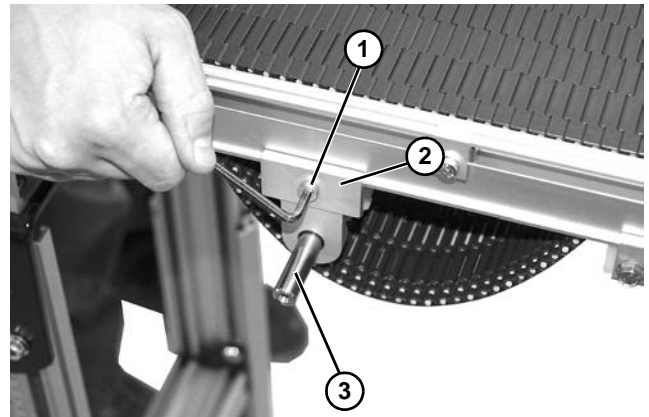

Figure 39
2. Loosen and remove screw (Figure 39, item 1) and bearing housing (Figure 39, item 2) and remove drive pulley (Figure 39, item 2).